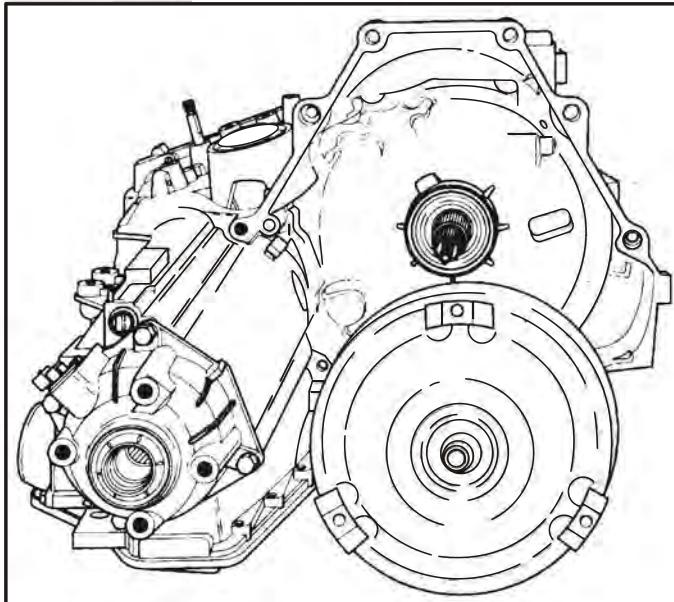

Figure 31
3. Remove the torque converter assembly shown in Figure 31.
4. Install support fixture J-28664-B on transaxle as shown in Figure 31.
5. Install transaxle and fixture into fixture base, as shown in Figure 31.